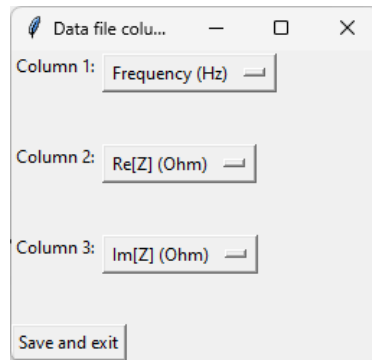

Figure 41: Restoring the default data file layout specification.
5. To go back to the standard loading settings, go to **File>Specify data file layout...** and select the settings indicated in Figure 41. If you do not do this, DEC*i*M will continue to expect $(f, |Z|, \phi)$ data even after closing the program.